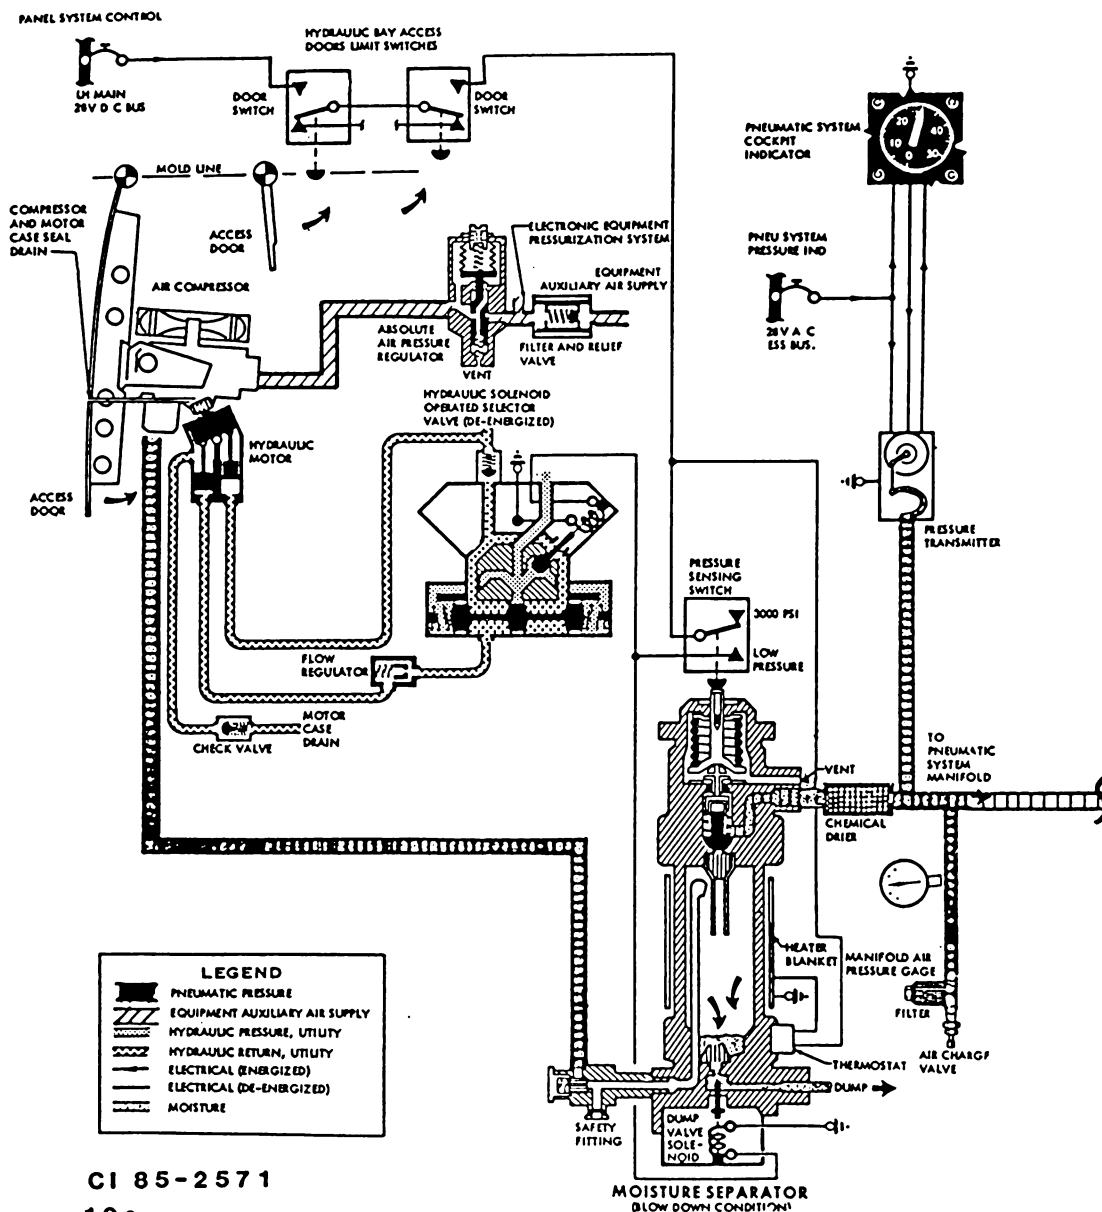

Figure 5-1. Pneumatic power system.
Pneumatic Power Supply System. In this discussion we have selected a pneumatic system that has just about everything you would normally find in a pneumatic system. Refer to figure 5-1. This system is a high pressure (3000 psi), self-sustained pneumatic system that supplies compressed air to the various pneumatic subsystems. Figure 5-1 only shows the pneumatic power supply system. Later on in this chapter we will show how a subsystem operates when we talk about the ram air turbine. But for now, we concentrate only on the pneumatic power supply system.
Pneumatic system operation. Notice in figure 5-1 that the air compressor is mounted to the access door. When the door is down (as shown) the lubricating pump inside the
We mentioned earlier that you can properly diagnose some of the unit malfunctions of a pneumatic system by studying a schematic drawing of the system. To familiarize you with how this is done, several troubles and causes are listed below which are based on the typical 3000 psi system shown in figure 5-1 and the RAT system shown in figure 5-2. While studying these troubles, you can see how systematic analysis can help you determine the actual cause of a malfunctioning pneumatic system. In the following troubles we will assume that the system is free from pneumatic leaks caused by tubing and fitting leaks. Let's start first with the pneumatic power system as shown in figure 5-1.
air compressor must be lubricated by lubricating oil inside the compressor. If the compressor is in the down position, as shown in figure 5-1, the door switches will prevent the compressor from operating. So be sure that the air compressor is in the horizontal position and that the access doors are closed. As you can see this will complete the circuit from the 28 VDC bus to the pressure switch on the moisture separator. If the pressure switch malfunctions or the system is above the normal operating range of the pressure switch, the circuit will be broken. Next comes the solenoid-operated selector valve itself. If the solenoid in the valve has a malfunction it will prevent the valve from operating. While we're on the electrical portion of the system, notice that the moisture separator has a circuit for heating the moisture separator and also a dump valve on the bottom of the moisture separator. The heating blanket on the moisture separator will be controlled by a thermostat. If the blanket is not operating, more than likely the thermostat has malfunctioned. The dump valve on the other hand is energized closed and spring loaded opened. If the electrical power should fail, the valve will automatically spring open, dumping the pressure in the moisture separator overboard. If the air compressor is running and pneumatic pressure continues to flow from the dump port of the moisture separator, a wire is broken or the dump valve has malfunctioned. If the electrical circuit is completed to the selector valve, what could possibly happen to the hydraulic system? Well, for one thing if the motor overspeeds, the flow regulator in the pressure line between the selector valve and hydraulic motor will probably malfunction. If the motor is turning and yet no pneumatic pressure is available at the outlet port of the compressor, more than likely the compressor runs but system pressure will not build up, the rupture disc on the safety fitting is probably blown out or the solenoid-operated dump valve is inoperative. In some cases the air compressor does not cut in within limits; this indicates a bad pressure switch. If the direct reading gage does not agree with the indirect reading gage, a test gage may have to be temporarily installed to determine which gage is functioning properly. If the basic pneumatic direct reading gage is incorrect, it will have to be replaced. If the indirect reading gage has malfunctioned, it should be adjusted. If it can't be adjusted, the transmitter or indicator will have to be replaced. Sometimes when the moisture separator valve is deenergized the pressure in the pneumatic system manifold will drop off. If no external leakage is evident, the check valve inside the moisture separator is probably leaking. This allows the pressure in the pneumatic pressure manifold to flow past the check valve and exit through the moisture separator dump line.
Use figures 5-1 and 5-2 to solve hypothetical situations listed below.
1. Using figure 5-1, what could be the problem if the dump valve is closed and yet the hydraulic selector valve will not operate?